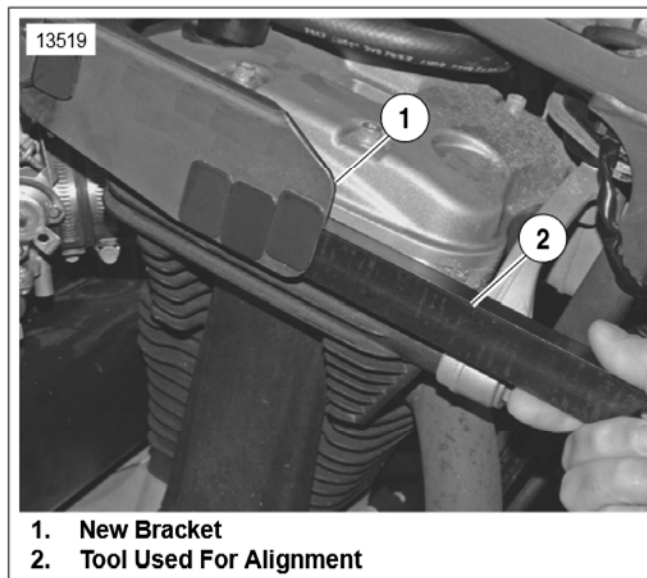

Figure 2. Install and Align New Bracket
4. See Figure 2. Using screw retained during removal process, **new** locknut, and Shift Lever Substitute Tool (HD-45338) (2) to provide 0.5 in. (12.7mm) clearance between fuel tank and cylinder head, install **new** bracket (1) provided in kit.